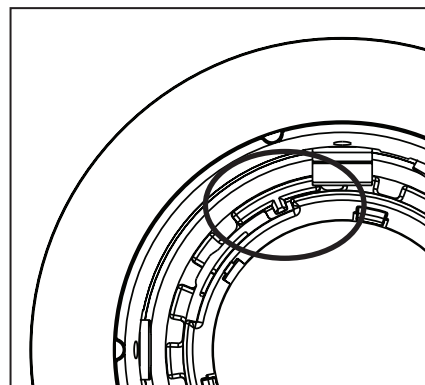

Figure 17
Step 4. Align the tabs in the heatsink to the slots in the optic holder and push optic into fixture. Twist optic holder clockwise to secure (Fig. 17).